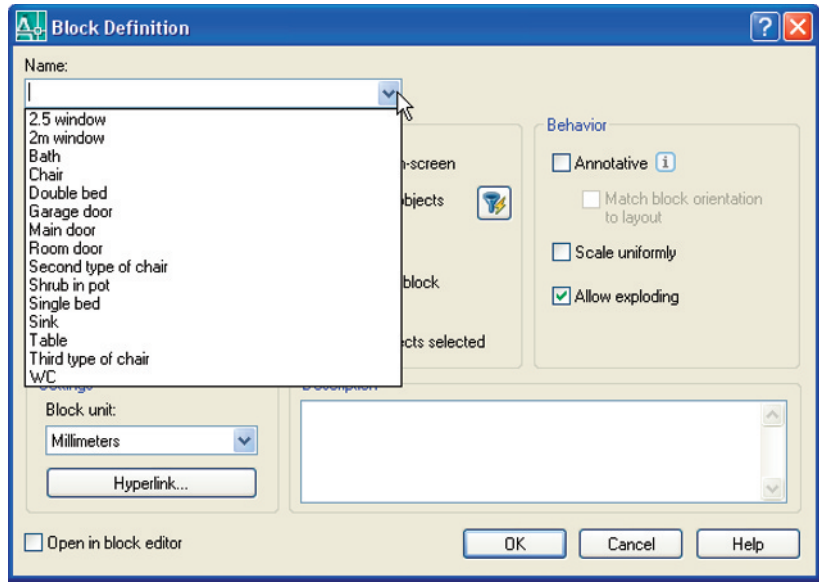

Fig. 9.4 The popup list in the **Name** field of the **Block Definition** dialog showing all blocks saved in the drawing
4. Open the **Block Definition** dialog again and *click* the arrow on the right of the **Name** field. Blocks saved in the drawing are listed (Fig. 9.4).